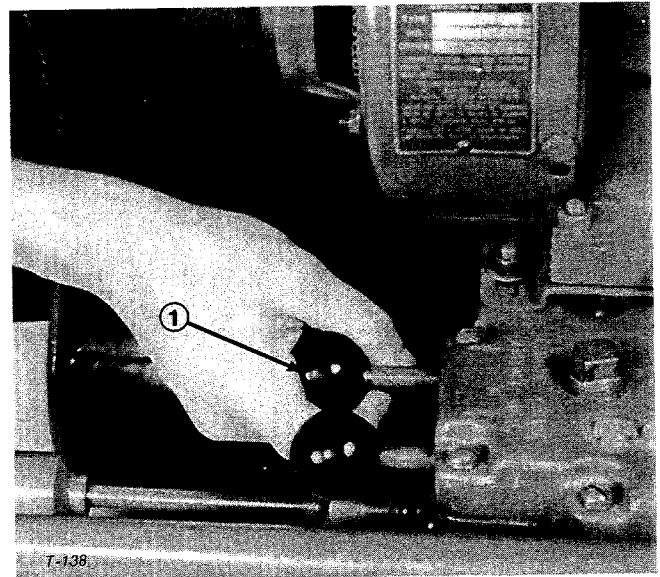

Figure 18
1. Push the traction knob on the transmission fully in to engage traction drive gears (Fig. 18).